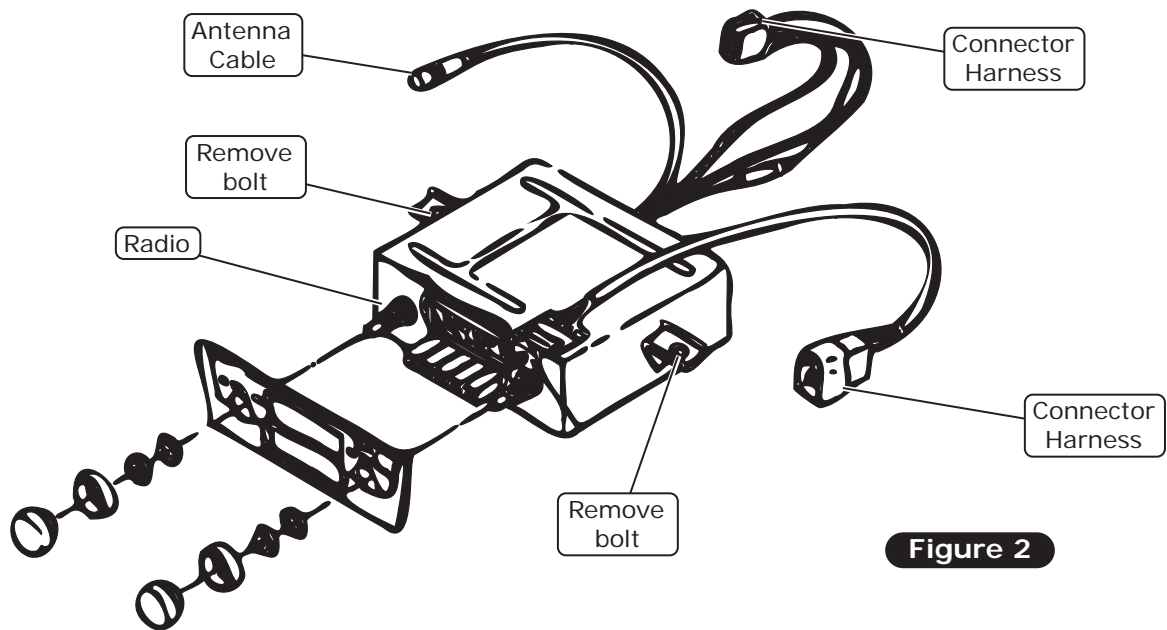

Figure 2
2. Remove the under dash passenger panel (if equipped) by removing (2) screws from underside of panel (See Figure 2, below).
3. Remove the (2) bolts from the radio's underside (See Figure 2, below). Retain bolts.
6. Temporarily remove the (2) screws for each panel support bracket (See Photo 1, below). Retain screws.